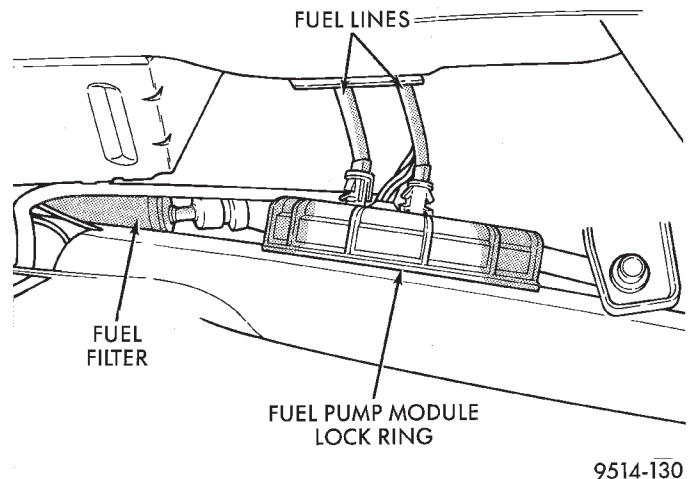

Fig. 15 Fuel Lines at Fuel Pump Module
- (6) Disconnect fuel lines from fuel pump module (Fig. 15). These are quick connect fittings. Refer to Quick Connect Fittings in this section.